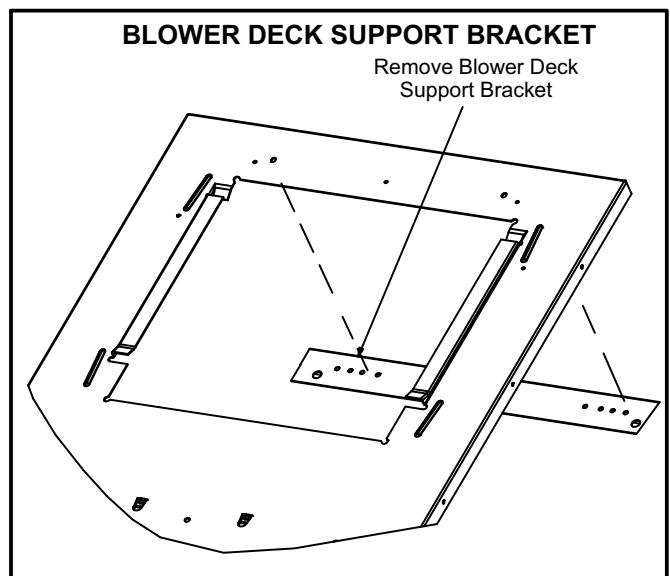

FIGURE 2
- 22 - If the furnace came with a blower deck support bracket as shown in figure 2, remove and discard.